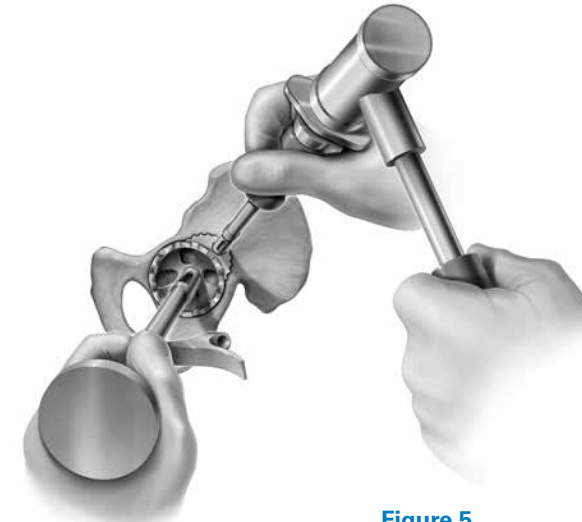

Figure 5
7. Sequentially rasp the defect until subchondral bone is exposed in the defect region and the Shell Trial/Augment Rasp construct achieves stability. Ensure the Shell Trial stays fully seated. Note the position of the center of the Augment Rasp relative to the defect for replication when inserting final implants (Figure 5).